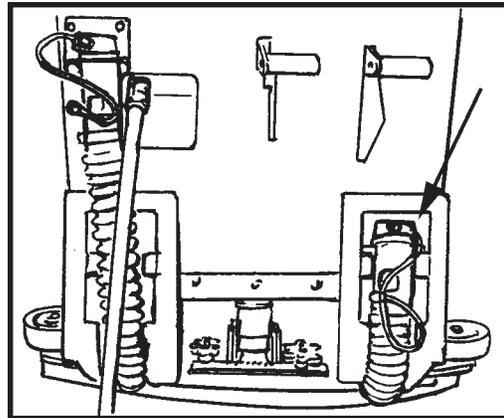
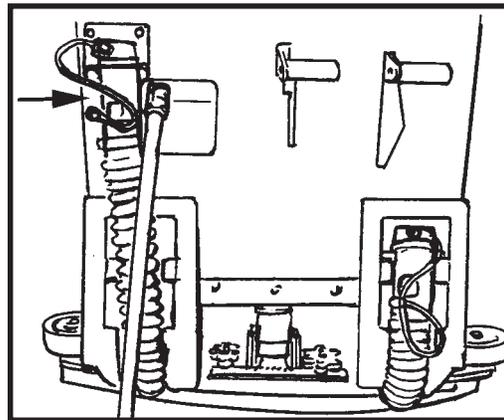

Figure 2
Figure 3
1. Drain the solution tank (Figure 2) and the recovery tank (Figure 3). To drain the tanks , follow this procedure: